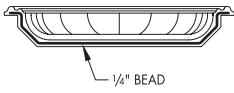

FIGURE 1
1. Apply a 1/4" bead of polyurethane construction adhesive along the bottom edge of the Niche tub (SEE FIGURE 1).